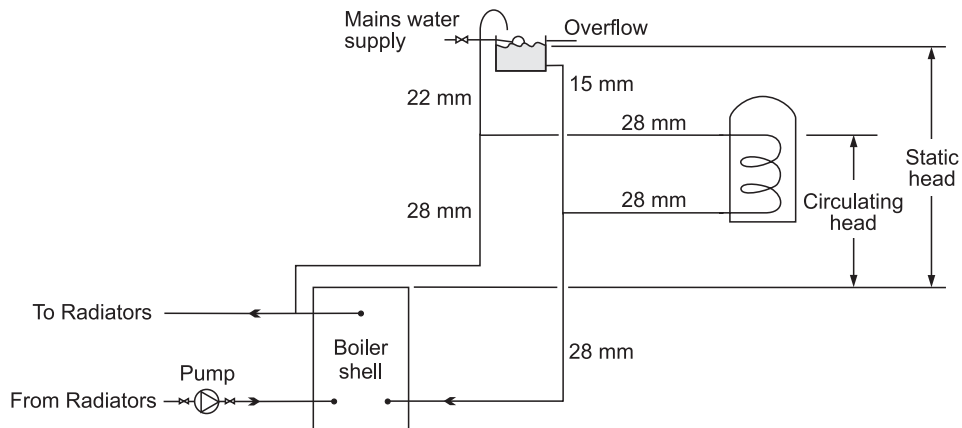

Fig. 8 - 50/70, 70/90 and 90/120 connections shown
See Figs. 8, 9 and 10
3.10.1 Gravity domestic hot water - (See Fig. 8)